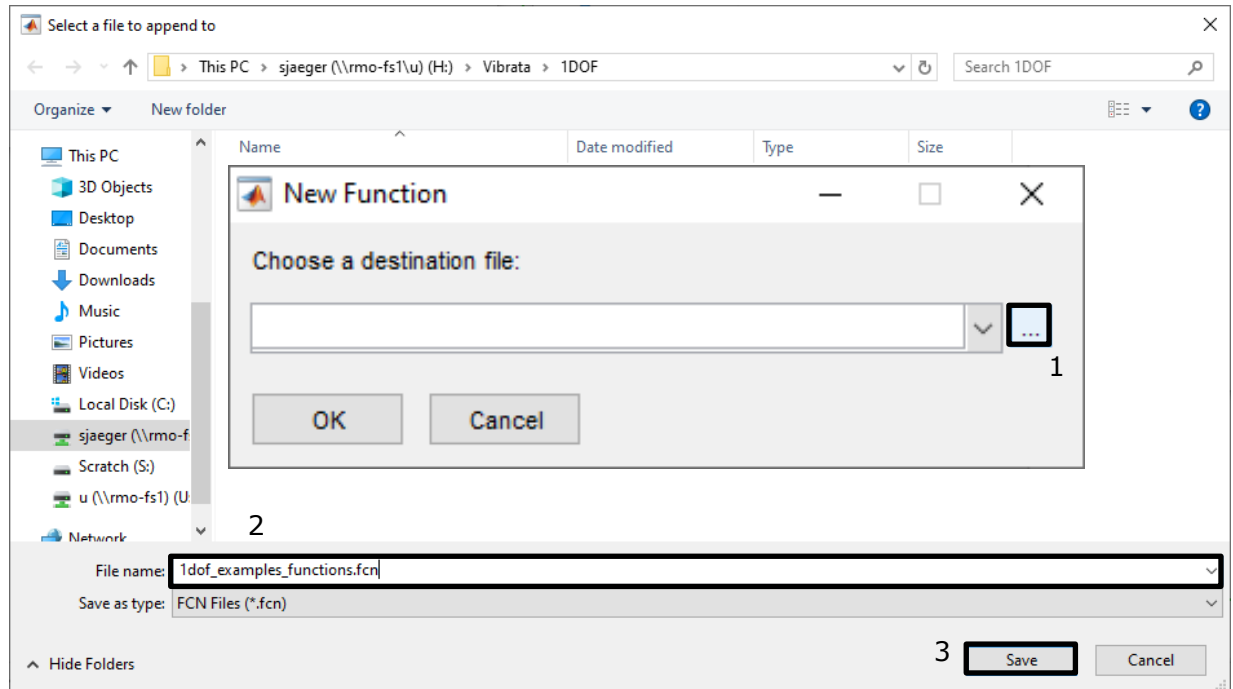

Figure 4-13. Save excitation function to new function file.
- d. Click the **Create** button to save the new function into an *fcn* file. Call this file "1dof_examples_functions.fcn" and place it in the 1dof folder (Figure 4-13).